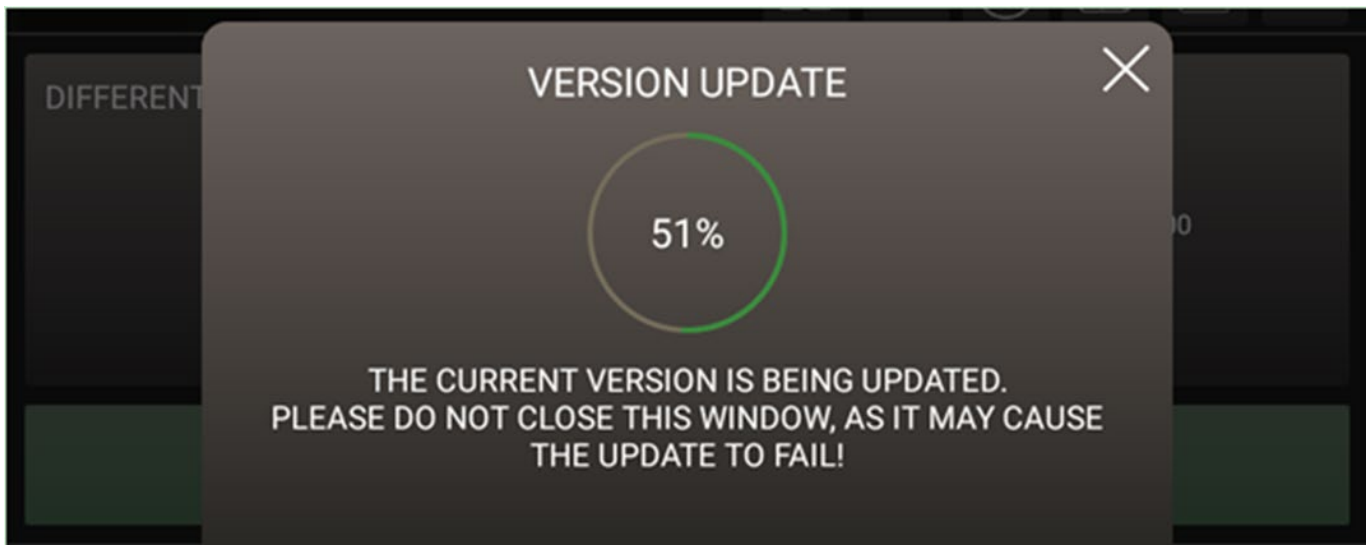

Fig. 12-11C
- When a system update is required, stop the machine operation before proceeding with the upgrade. Ensure the system remains powered on and connected to the network during the upgrade process, as indicated in **Fig.12-11C**.